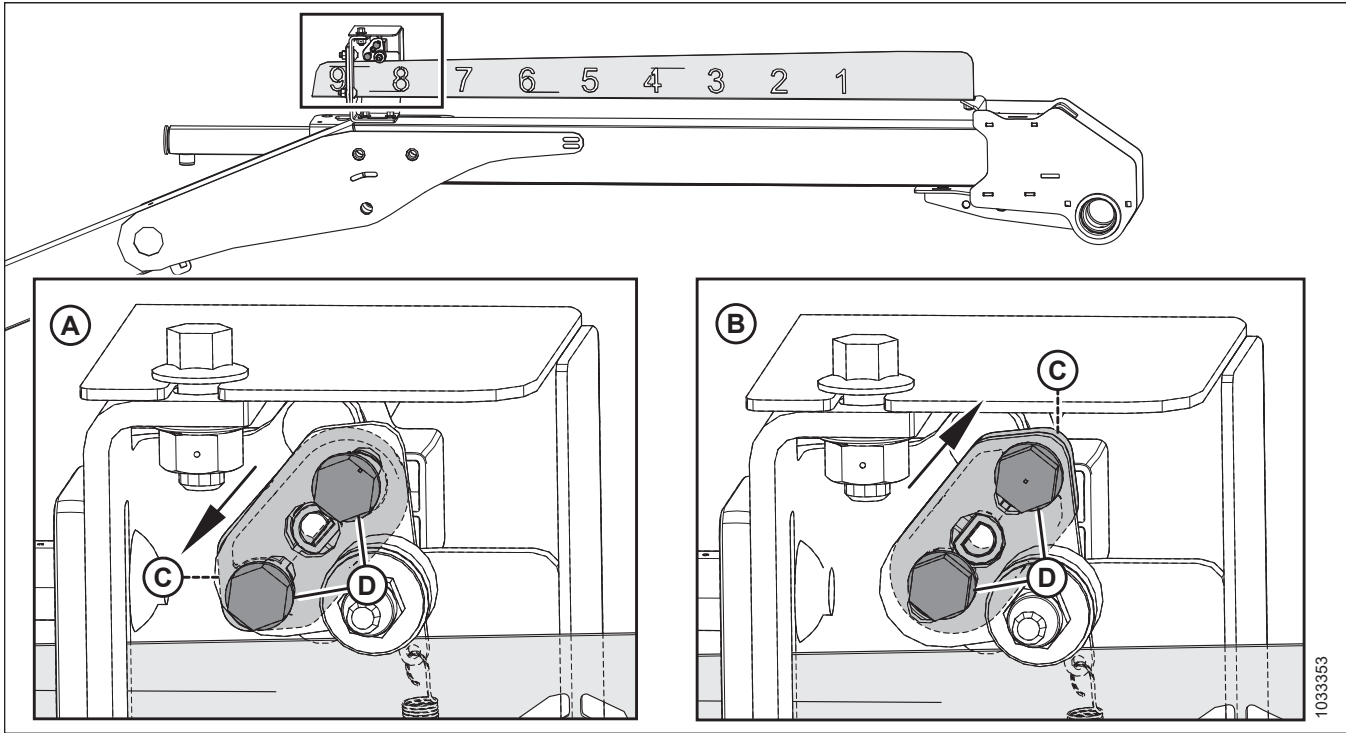

Figure 8.5: Sensor Arm Configurations
Note the orientation of sensor arm (C) and hardware (D). Ensure that the sensor arm is configured properly for your machine; refer to Figure 8.5, page 306.